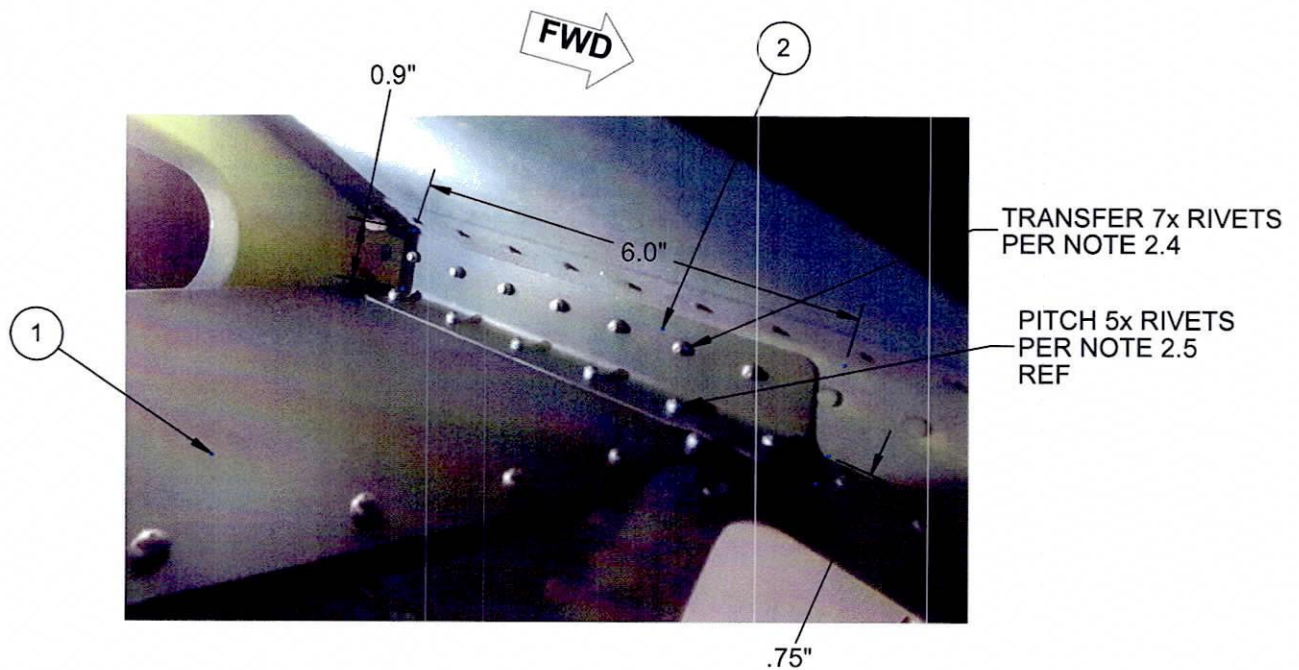

FIGURE 2 - Inner Angle Installation
- 2.4 Transfer existing 7x ϕ 0.129" (#30 drill) rivet holes from the top frame to the new inner angle (2) as shown in Figure 2.